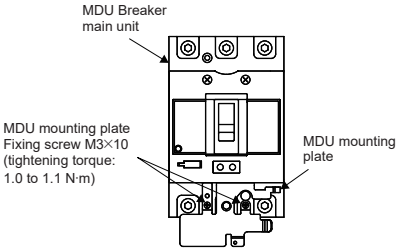

Figure 5. 250 A frame circuit breaker
(2) When external mounting type, screw the MDU mounting plate into the load side of the MDU Breaker main unit. (Figure 5 to 7)